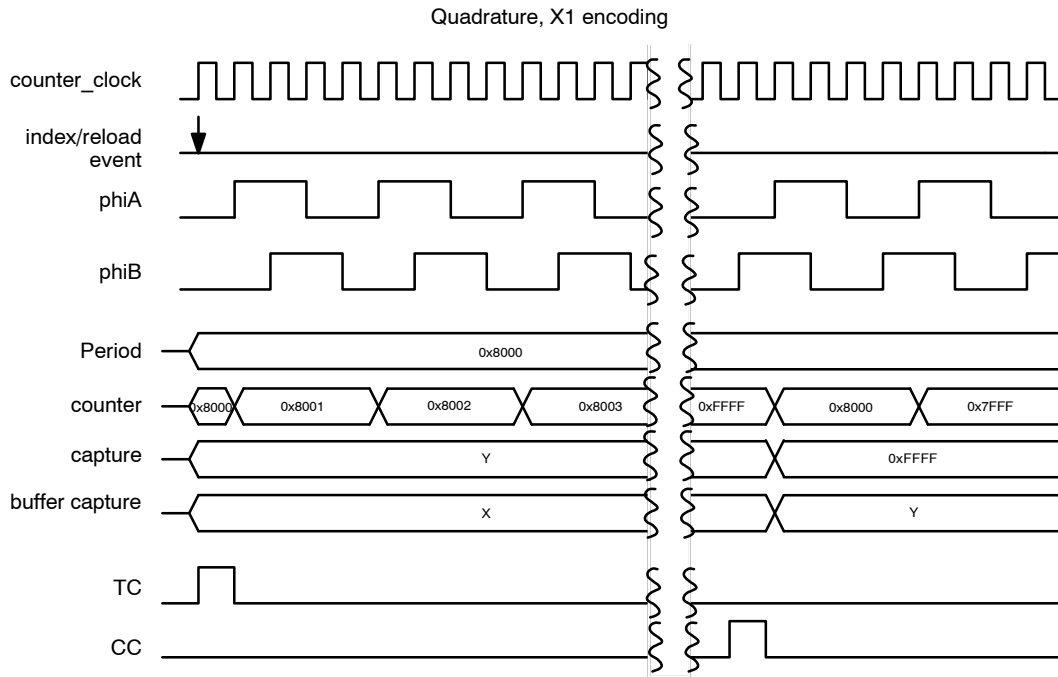

Figure 67. Timing Diagram for Quadrature Mode, X1 Encoding
- Quadrature index signal: This is connected to the reload signal as a hardware input. This event generates a TC condition, as shown in Figure 67. On TC, the counter is set to 0x0000 (in the up counting mode) or to the period value (in the down counting mode). NOTE: The down counting mode is recommended to be used with a period value of 0x8000 (the mid-point value).
- The DOWN bit field of counter status (TCPWM_CNTx_STATUS) register can be read to determine the current counting direction. Value ‘0’ indicates a previous increment operation and value ‘1’ indicates previous decrement operation. Figure 67 illustrates quadrature behavior in the X1 encoding mode.